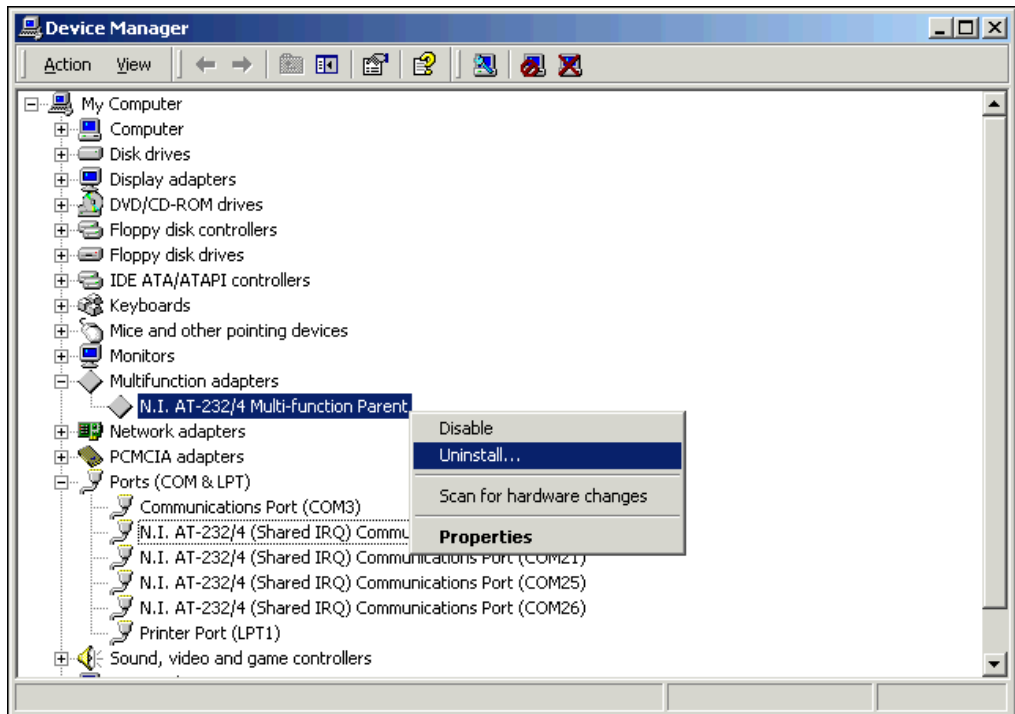

Figure C-10. Selecting an Interface to Uninstall
4. From the **Multi-function adapters** list, right-click the National Instruments interface that you want to uninstall, as shown in Figure C-10.